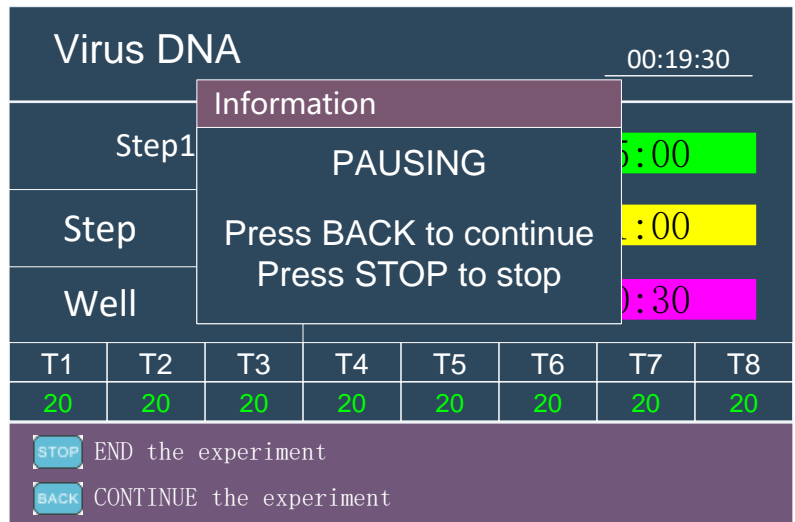

Figure 4-7 Experiment Running Interface - Pause Prompt
- Press **STOP** to pause the experiment and there will be a prompt pop up reminding user that **'Press back to continue running the experiment and press stop to stop running the experiment'** as shown in the figure 4-7. While the experiment is running, the corresponding time of the current step will blink and enter the countdown mode.